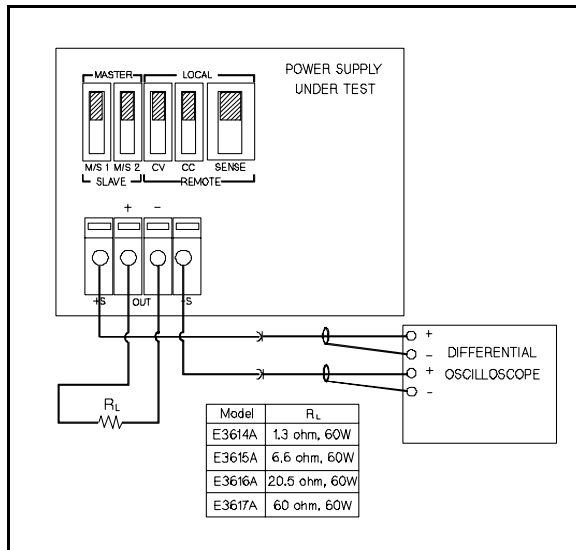

Figure A-7. CV PARD Peak-to-Ppeak Measurement Test Setup
- Connect the test equipment as shown in Figure A-7.